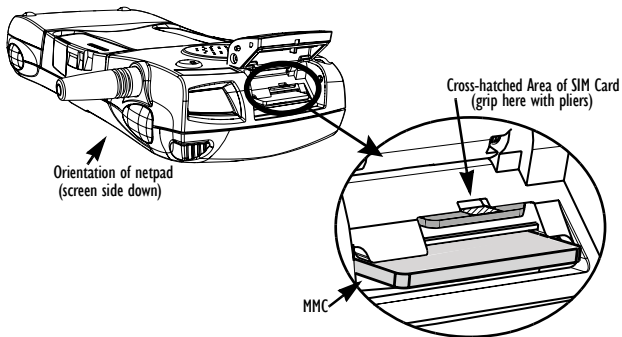

Figure 2.20 Removal Of SIM Card
- Open the card slot door and grasp the card on the cross-hatch area (see Figure 2.20 on page 42), using a pair of tweezers, or long-nosed pliers.